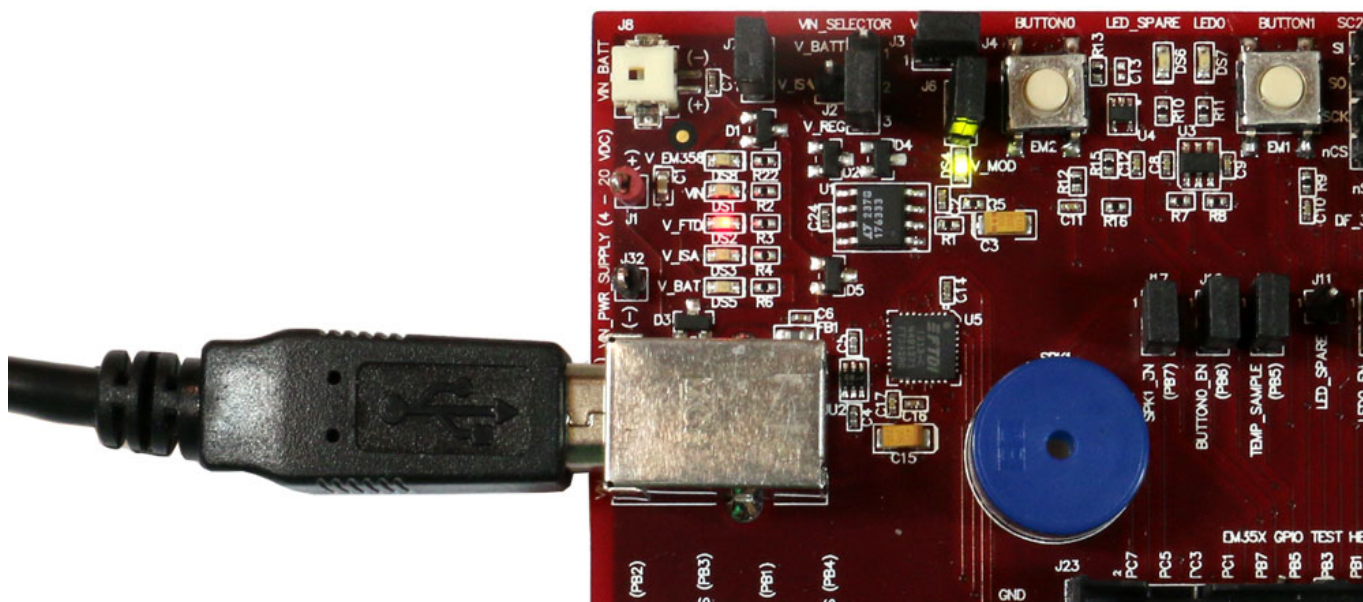

Figure 10. Breakout Board Power Supplied by USB (J5)
- Breakout Board Power Supplied by USB (Figure 10): The Breakout Board may also be powered through the USB connector (J5), either using a USB cable plugged in to the USB power adapter included in the development kit, or by connecting it to your PC. The power supply jumper on the Breakout Board should be in the lower vertical position, connecting V_REG to the center pin. The V_FTDI LED (DS2) will illuminate when power is applied. When powering the Breakout Board in this way, ensure the power switch on the Debug Adapter (ISA3) is in the EXT (External) position.